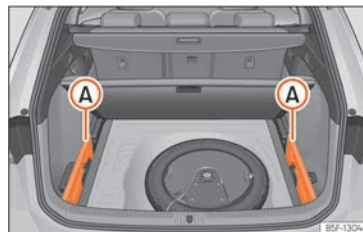

Fig. 128 In the luggage compartment: space to store the retractable shelf.
- Remove the left and right covers »» Fig. 128 ① A.